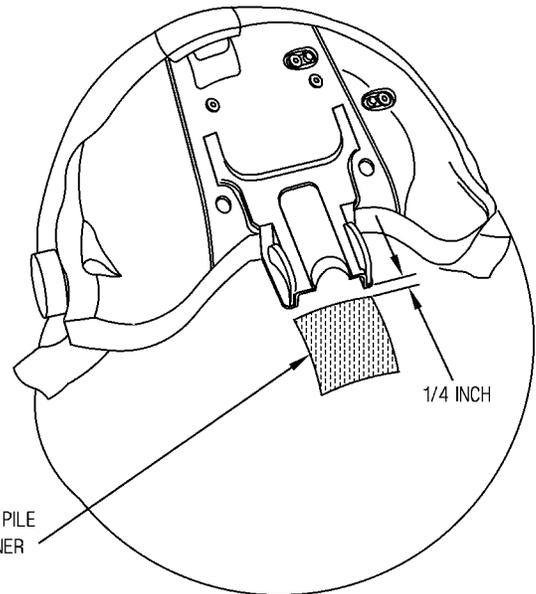

Figure 17. Pile Tape Location
b. At a point 0.25 inch aft of raised visor, center a 2 x 2 piece of pile fastener tape on crown of helmet shell assembly. Hold in position and trace lightly around pile fastener tape with a lead pencil to make an outline on the surface of the reflective tape installed on the helmet shell assembly. Refer to figure 17.